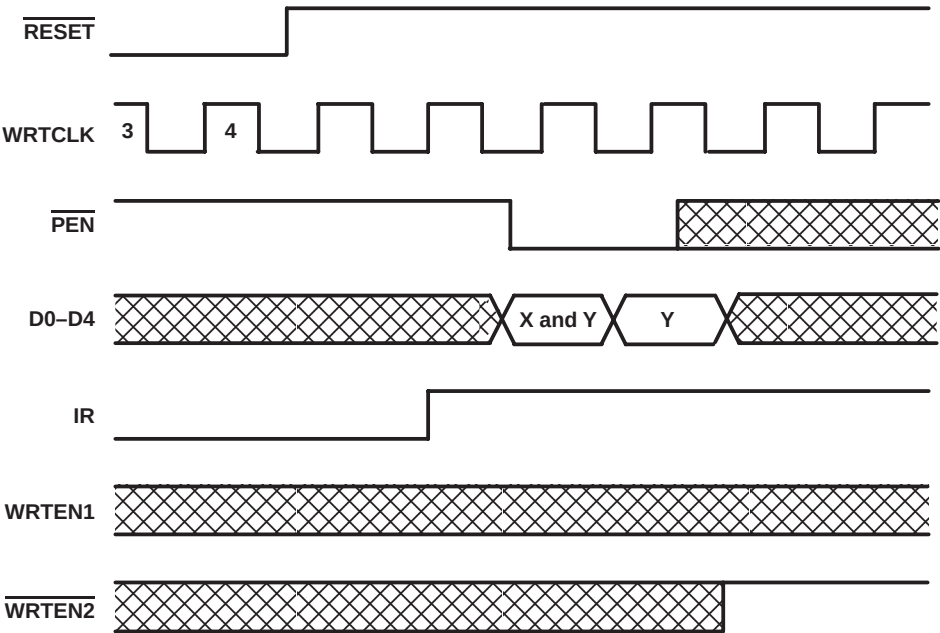

Figure 4. Programming X and Y Separately
Program enable ($\overline{PEN}$) should be held high throughout the reset cycle. $\overline{PEN}$ can be brought low only when IR is high and WRTCLK is low. On the following low-to-high transition of WRTCLK, the binary value on D0–D4 is stored as the AE offset value (X) and the AF offset value (Y). Holding $\overline{PEN}$ low for another low-to-high transition of WRTCLK reprograms Y to the binary value on D0–D4 at the time of the second WRTCLK low-to-high transition. When the offsets are being programmed, writes to the FIFO memory are disabled regardless of the state of the write enables (WRTEN1, WRTEN2). A maximum value of 31 can be programmed for either X or Y (see Figure 4). To use the default values of $X = Y = 8$, $\overline{PEN}$ must be held high.